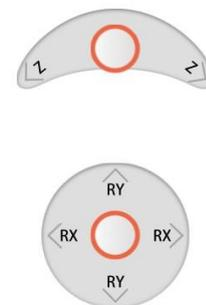

Fig 10-5
- Operation rotary virtual handle (As shown in Fig 10-5). Turn this handle according to the indicated direction. The rotation point is the tool center point (TCP), which is at the end of the robot and provides the feature points of the robot tool.